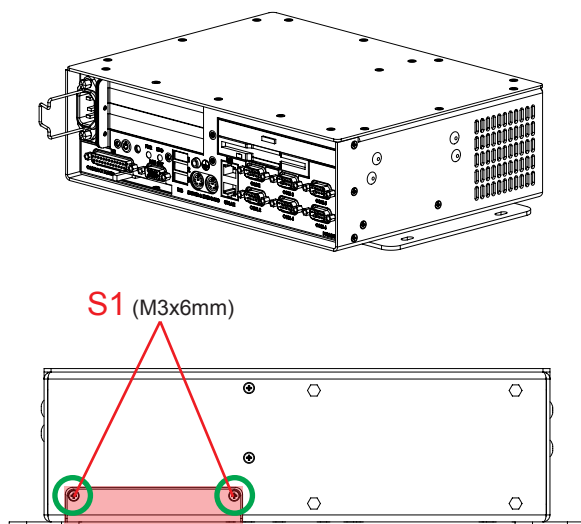
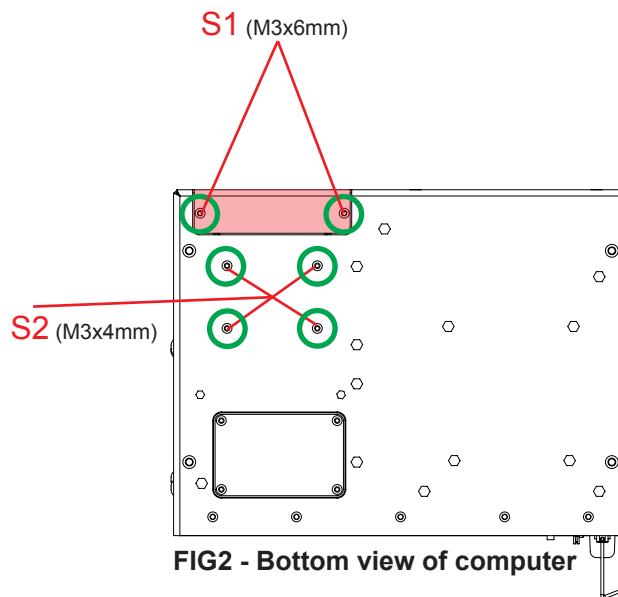
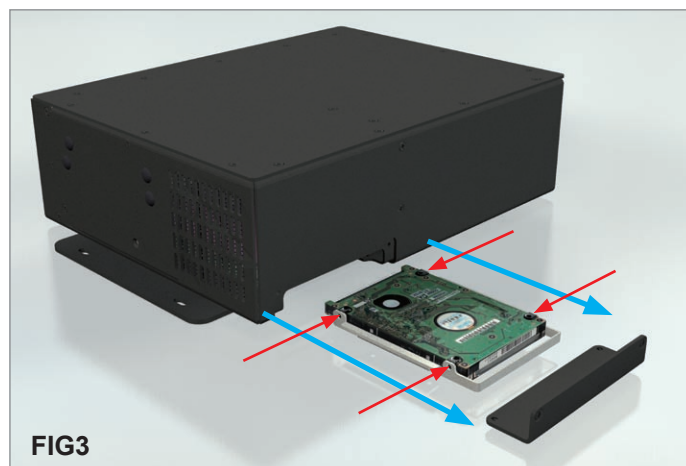

FIG1 - Rear view of computer
FIG2 - Bottom view of computer
FIG3
Unscrew 4 pcs of countersunk **M3x6mm** (S1) screws on the casing, and remove the bay hatch. See the location of the hatch and screws marked clearly in FIG1 & FIG2.
The harddrive is mounted to a supporting bracket which needs to be demounted. Unscrew its 4 pcs of countersunk **M3x4mm** (S2) screws and then gently pull the HD\_Bracket outwards and extract the harddrive (FIG2 & FIG3).
**DO NOT use M3x6mm** screws to remount the HD\_Bracket to the casing. (FIG2).